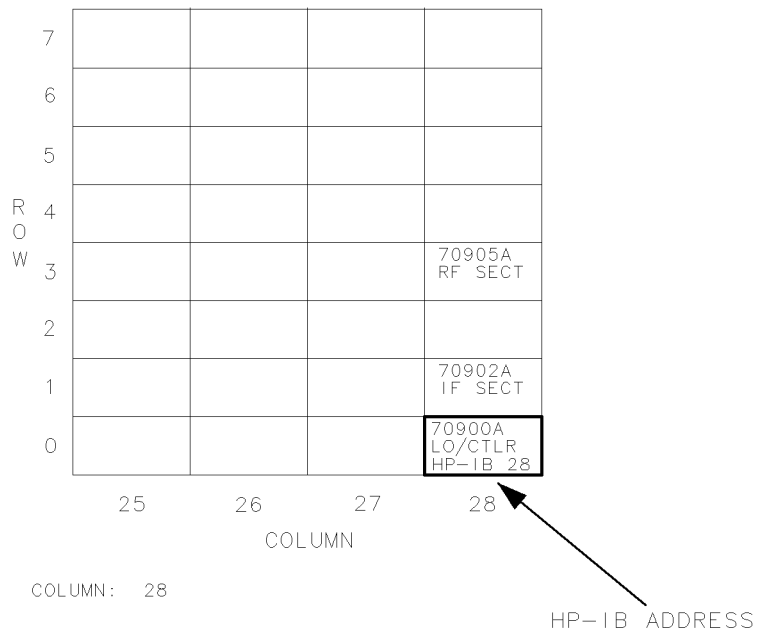
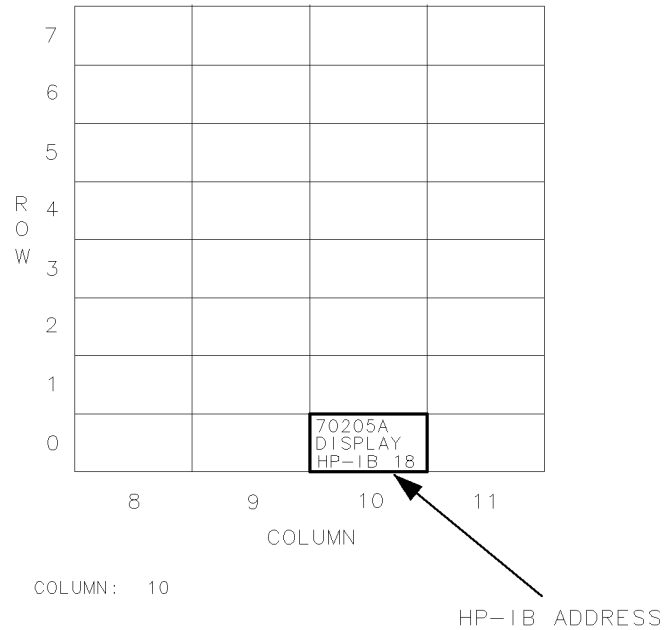

Figure 1-1. Spectrum-Analyzer HP-IB Address as shown on Address Map
Figure 1-2. View Display Module on Address Map
To view the map, press **DISPLAY**, then press **Address Map**. Turn the front panel knob until the HP 70900B local oscillator source appears in the **address map** matrix. The HP-IB address is indicated next to the HP 70900B local oscillator source number. (The HP 70900B local oscillator source contains the firmware that controls spectrum analyzer operation and communicates with HP-IB.) The HP 70900B local oscillator source must be in row 0 for HP-IB access. (See Figure 1-1.) If the HP 70900B local oscillator source is not in row zero, set the HP-MSIB module address switch to row 0. (See Figure 1-3 and following text or refer to *HP 70000 Modular Spectrum Analyzer Installation and Verification Manual*)
4. Check system configuration on the address map. For normal spectrum analyzer operation, the local oscillator and display modules are positioned in the bottom row, row 0, of the **address map** with the other modules stacked in a column above or above and to the right of the HP 70900B local oscillator source. (See Figure 1-1 and Figure 1-2.) The column may contain empty spaces between modules. If your system is not configured properly, for installation instruction, refer to the *HP 70000 Modular Spectrum Analyzer Installation and Verification Manual*.
The current HP-IB address is shown inside the HP 70900B local oscillator source box on the address map (Figure 1-1). Changing the HP-IB address with the front panel controls does not affect the HP-MSIB address of the module.